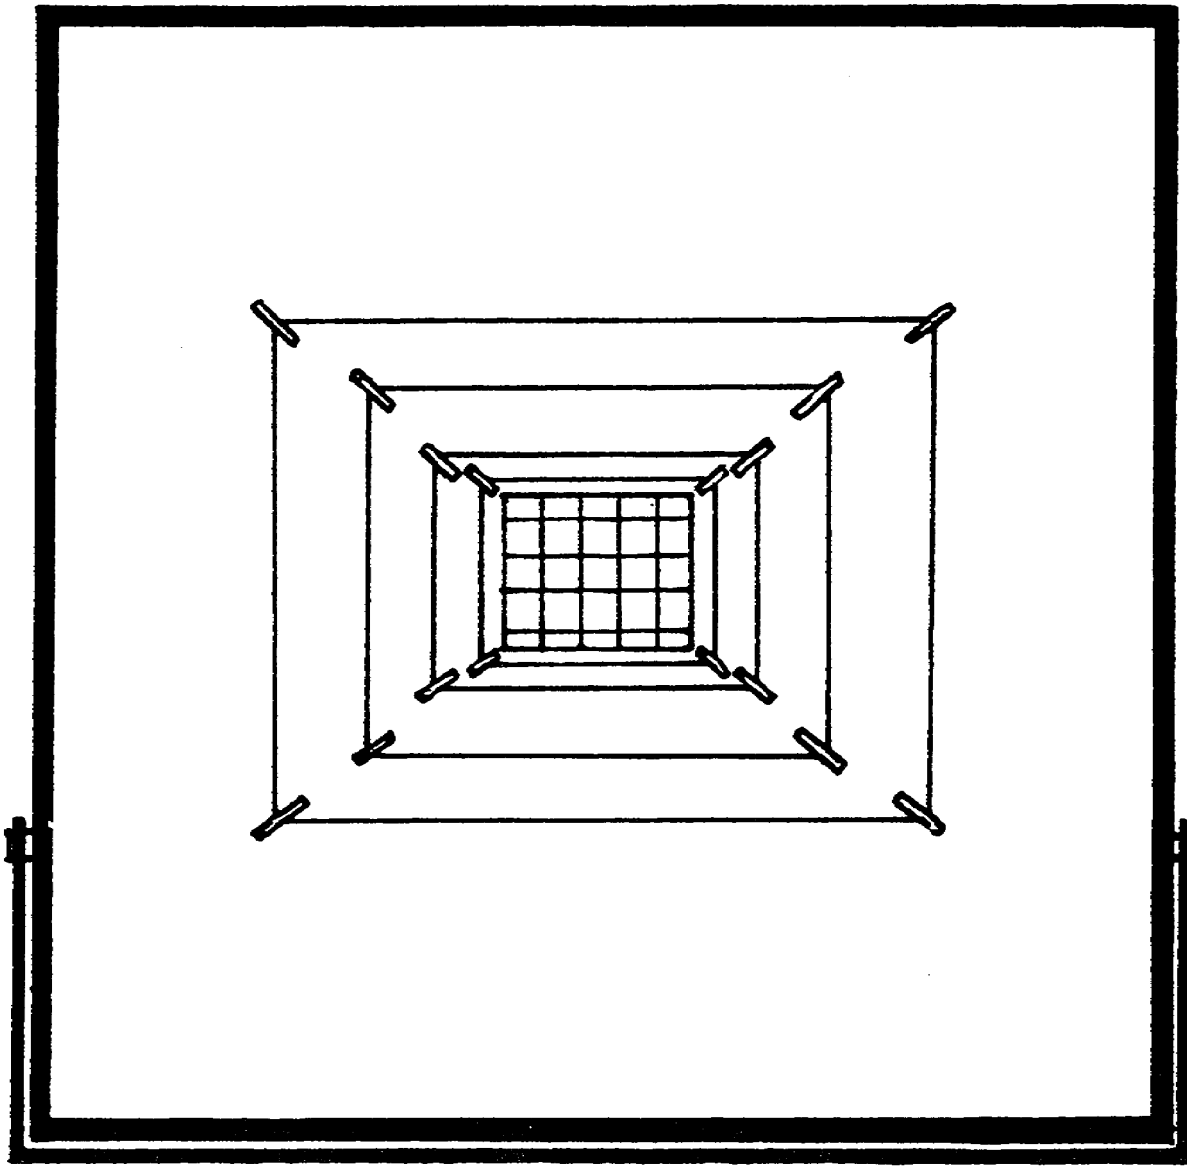

Figure 1-48. Easel with standard masks.
g. Easel. The easel is hinge mounted on the front end and includes an opal glass secured within the easel frame. This is used when copying transparent material, by placing an illuminating light source behind the easel. Five interlocking photographic masks, (fig 1-48), are supplied to hold copy to the glass frame. Both the glass frame and the masks use clips to secure copy, or the next smaller mask, to the easel. A calibrated mounting plate ((2) below) mounted on a sponge rubber padded mounting board, and two glass plates, are also part of the easel.
(1) Mounting plate. The mounting plate is used to provide copy support on the easel. The mounting plate has a white imprinted scale calibrated in inches, and a border imprinted for 8½x11-inch and 8½x14-inch sheets.